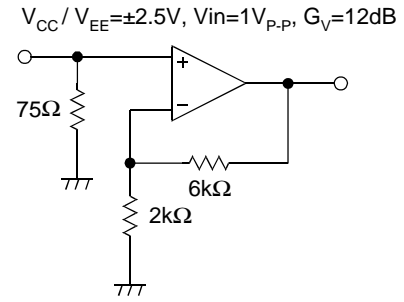

Figure 2: Application Example
An example of this application is shown in Figure 2 with the preventive measures explained below.
In Figure2, if $-0.5V$ (the minimum value of input amplitude) is given to the input, the output voltage will be set to $-2.0V$. Substitution of V_{in} and V_{out} into (4) gives